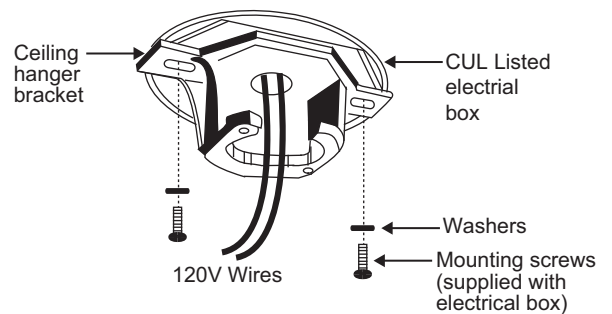

Figure 7
Step 2. Pass the 120-volt supply wires through the center hole in the ceiling hanger bracket as shown in Fig. 7.